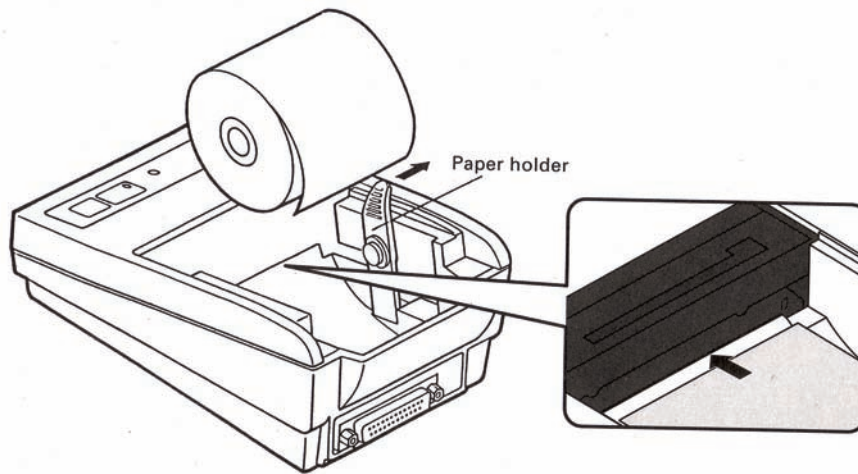

Figure 3. Loading the paper roll
6. Insert the end of the paper into the slot at the rear of the printing mechanism (see Figure 3) and press the **LF** button until approximately 5 or 6 cm of paper feeds through the mechanism.
7. Pull the black paper holder outward and insert the paper roll (see Figure 3).